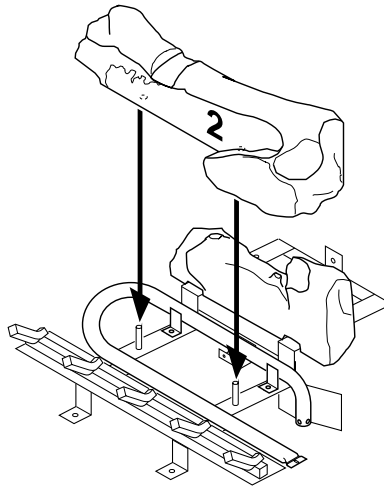

Figure 44 - Installing Log No. 2
2. Rest log #2 (large front log) on the pins on the front part of the grate (see Figure 44).